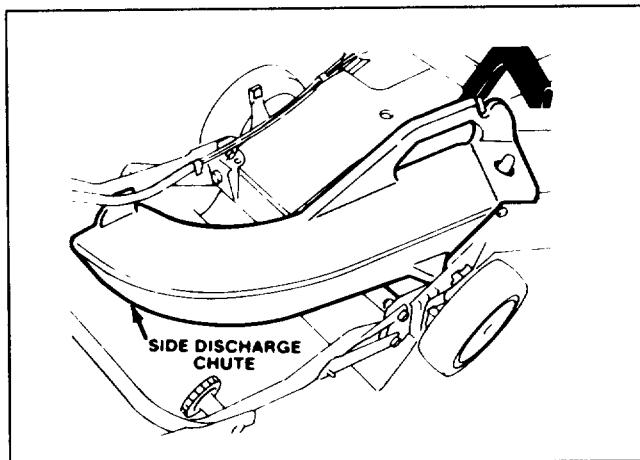

Figure 26
1. **Side Discharge Kit, Model No. 59168**—Install in seconds. Rear mounted in place of the grass bag. Disperses clippings while trimming on both sides (Fig. 26).